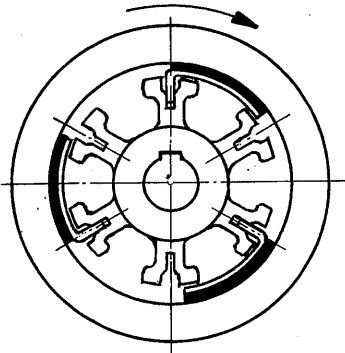

Fig. 11
- 1) The clutch shoes must be inserted in driving plate 240, evenly distributed (either 2, or 3, or 4, or 6 shoes). See Fig. 11.